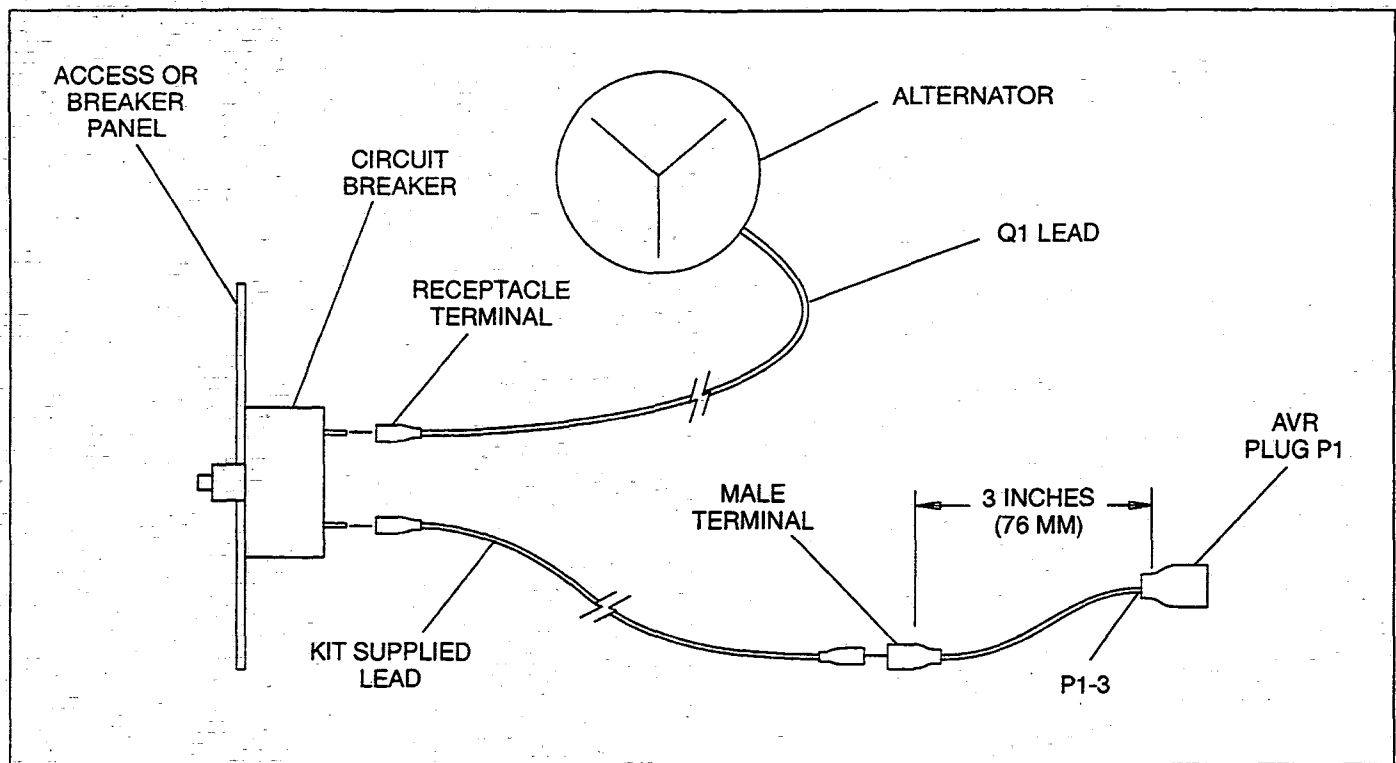

FIGURE 2. CIRCUIT BREAKER WIRING DIAGRAM
6. Cut wire from P1-3 (Q1) approximately 3 inches (76 mm) out from plug P1 (Figure 2).